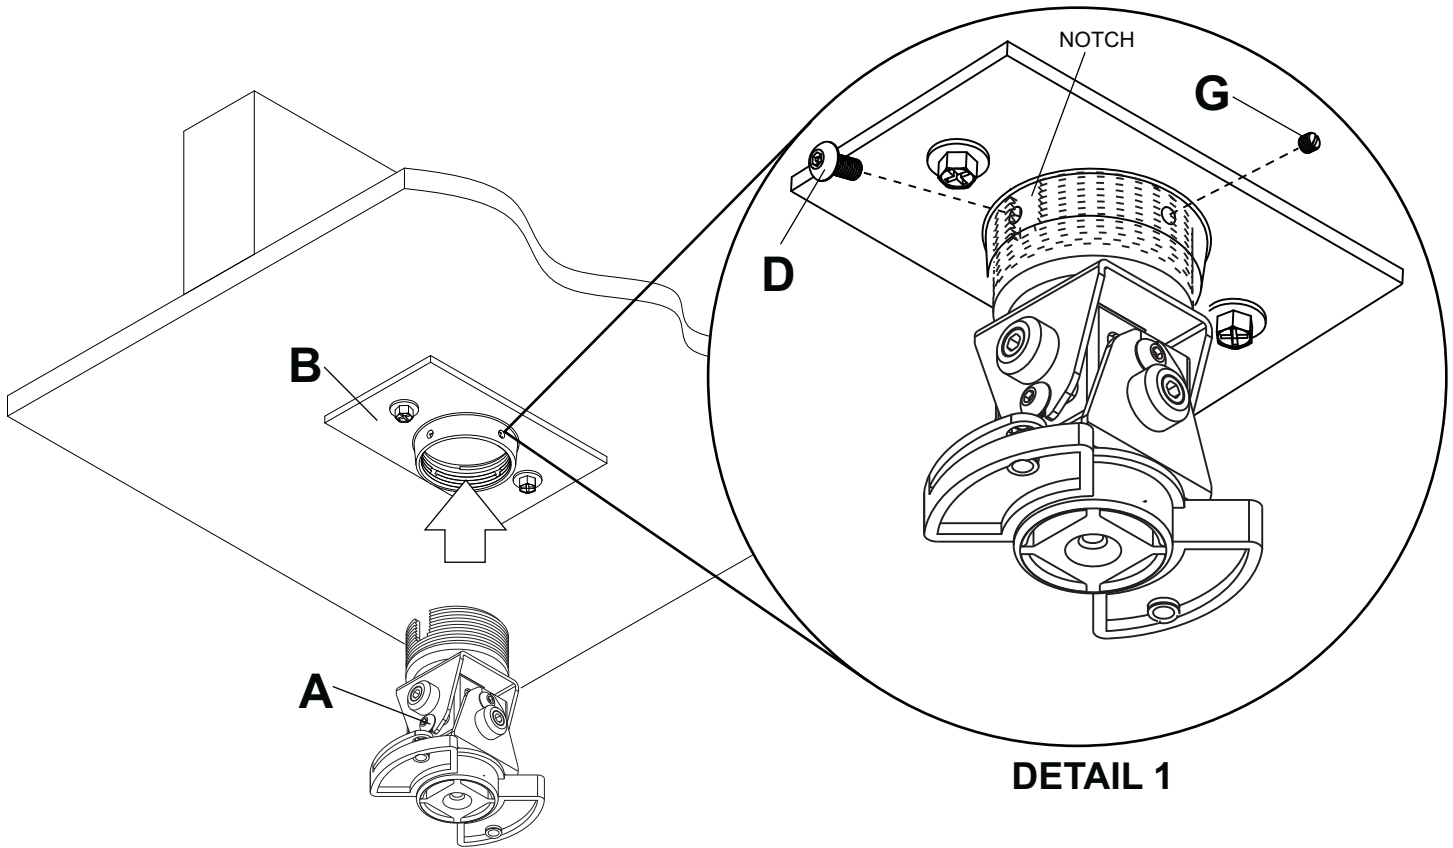

fig. 2.1
2 Hand thread projector mount assembly (A) into ceiling plate (B) as shown in figure 2.1. Align the notch of projector mount assembly with one of the four holes in ceiling plate (B) and secure with an M5 x 10 mm socket pin screw (D) using allen wrench (H) as shown in detail 1.